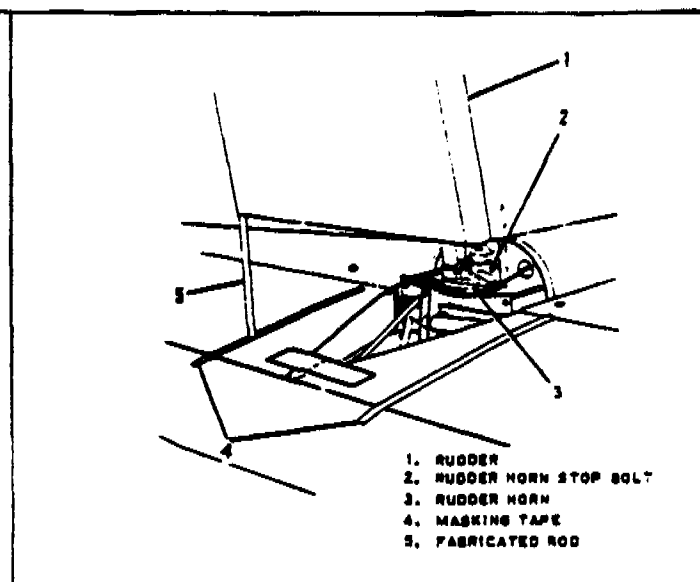

FIGURE 5-7. CHECKING RUDDER TRAVEL
4. With the small rod inserted into the trailing edge of the rudder, swing the rudder in both directions to determine that the pointer intersects the inboard edge of the tapes. (Refer to Figure 5-7.)